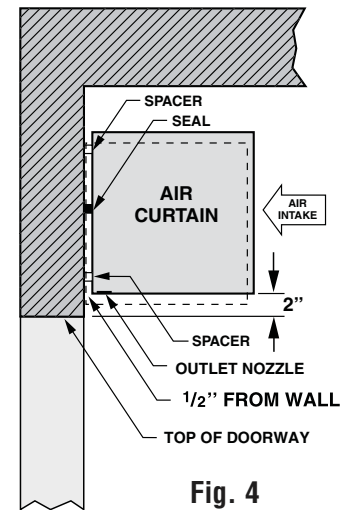

Fig. 4
If the unit must be mounted higher, it must be spaced out from the wall 1/2" for every inch the unit is above the door opening. Also a seal must be placed between the entire length of the unit and the wall. (See Fig. 4)
3. To ensure peak performance, keep the air stream free of obstructions. Make sure that nothing interferes with the curtain of air. If the air curtain cannot be installed flush with the wall, be sure to seal the gap between the wall and the back of the air curtain along the entire length of the unit to prevent airflow through this void. (See Fig. 4). The discharge vane is directed from 0° to 20° toward the door opening. If the air stream strikes any obstruction (the top edge of the doorway, a door opening device, etc.), the effectiveness of the unit will be greatly reduced.
5. Before mounting the air curtain, check the supporting structure to verify that it has sufficient load-carrying capacity to support the weight of the unit(s). The mounting hardware (may be supplied by others) should be capable of supporting a minimum of three (3) times the weight of the unit.